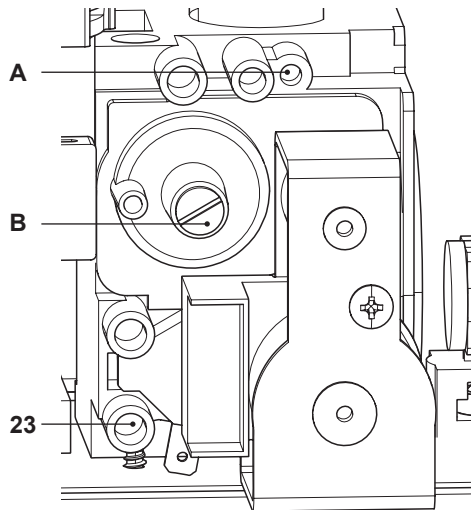

Fig. 7.5
- With the boiler switched on at full rate (maximum output power), check the supply pressure by using the 23 point in Fig. 7.5 and compare the value with that reported on the Gas supply pressure table (minimum inlet pressure) in the section "Technical data ADVANCE 15OV" on page 24, "Technical data ADVANCE 18OV" on page 27 and "Technical data ADVANCE 24OV" on page 30.
- Ensure the test nipple 23 in Fig. 7.5 is firmly closed.